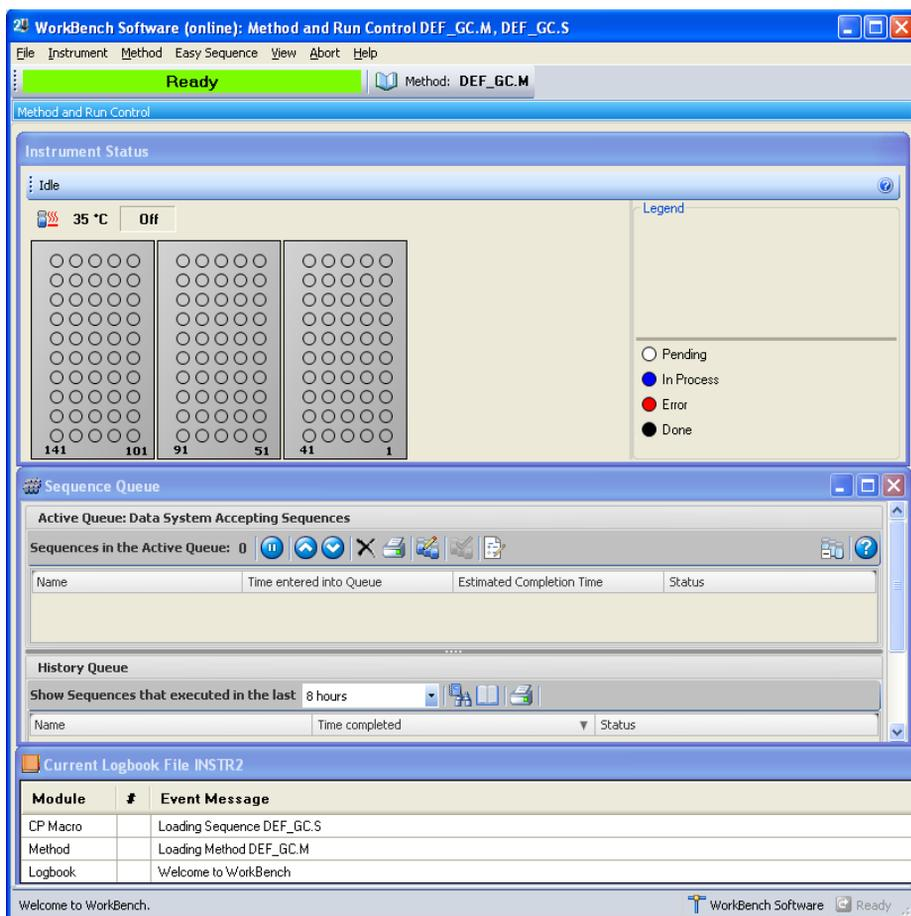

Figure 2 The Agilent 7696A WorkBench Software
- 1 Navigate to **Windows Start Menu > All Programs > Agilent WorkBench** and select your instrument from the menu list. The WorkBench Software opens (Figure 2).